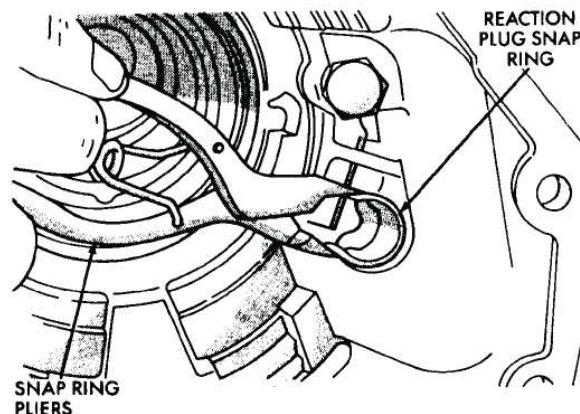

Fig. 70 Reaction Plug And Snap Ring Installation
(14) Install reaction plug snap ring (Fig. 70). **Compress snap ring only enough for installation; do not distort it.**